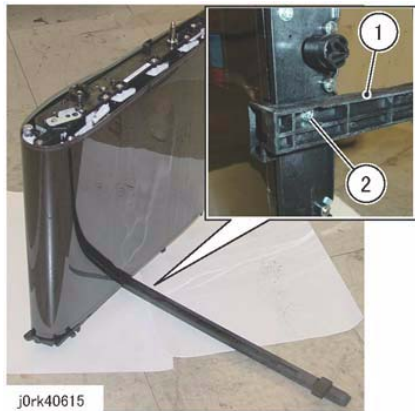

Figure 5 Guide Install
7. Install the Guide removed in step 4 on the Frame. (Figure 5)